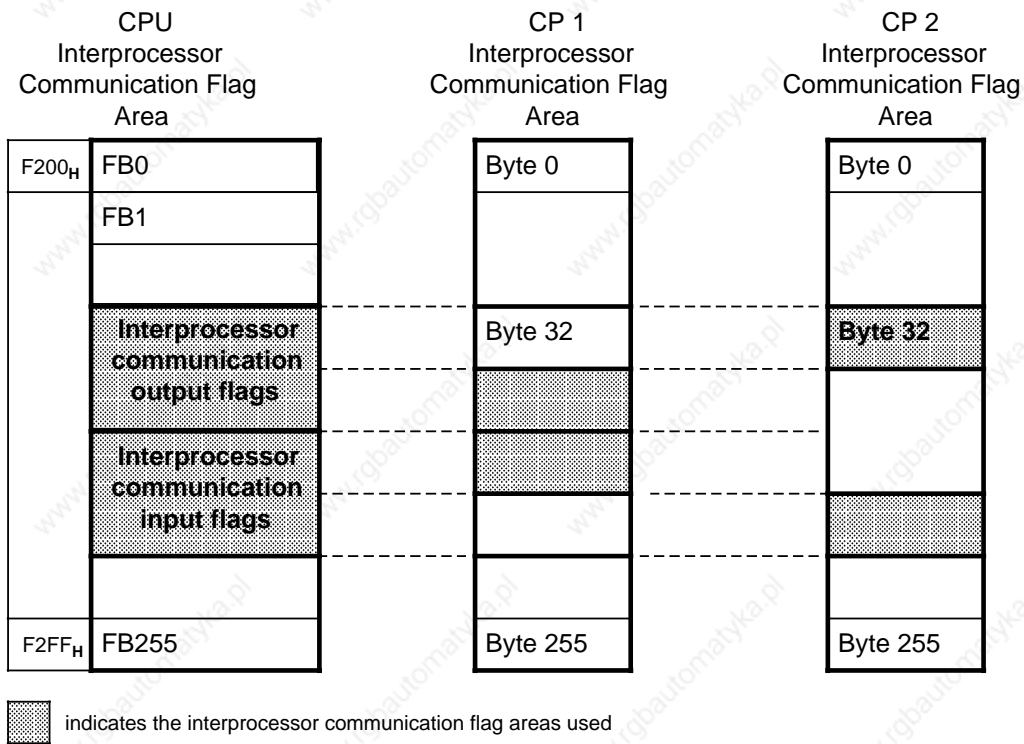

Figure 12-1. Interprocessor Communication Flag Areas when Several CPs Are Used
- The areas on the individual CPs do not have to be assigned consecutively (see Figure 12-1).